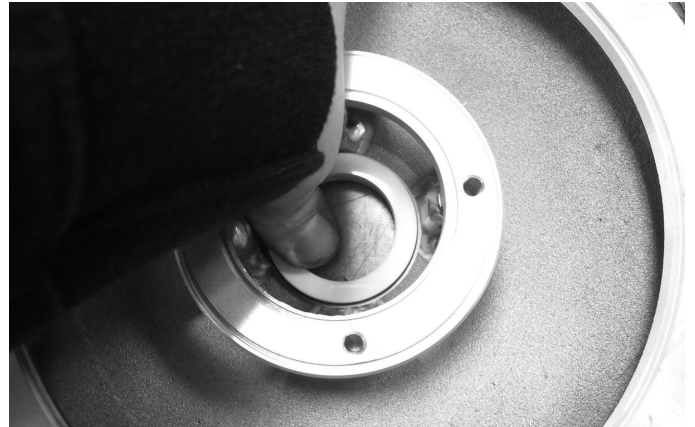

Figure 1
1. Using water as a lubricant, install the stationary halves of the mechanical seal into the seal flange on the front and rear chamber plates. Press it into place with your fingers (See Figure 1 & 2). Then clean the stationary and rotary portion of the seal.